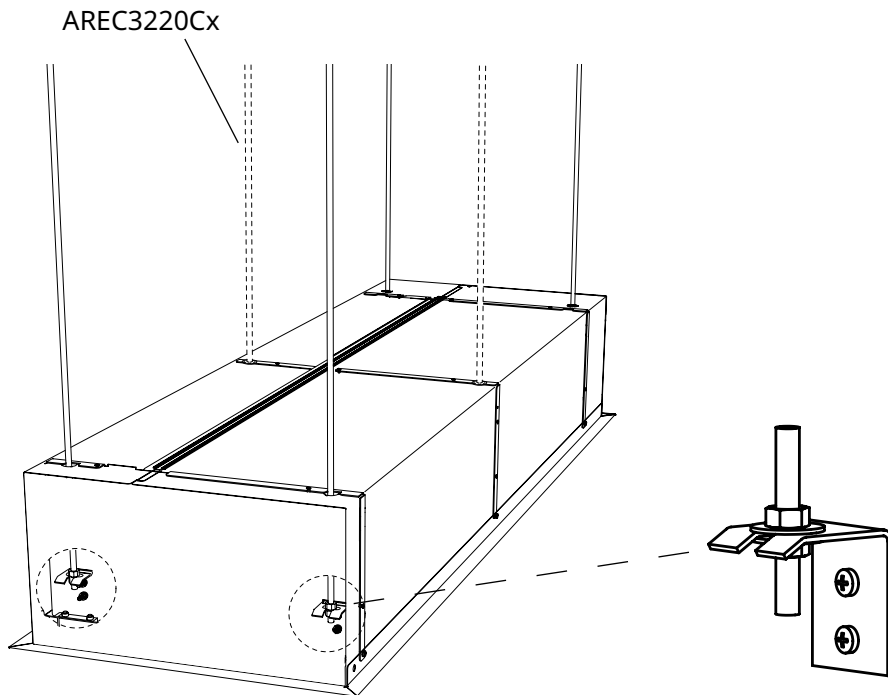

Fig. 2b. Mounting on threaded bars inside the unit.
2. Hang on threaded bars (M8) according to fig. 2b (accessory).